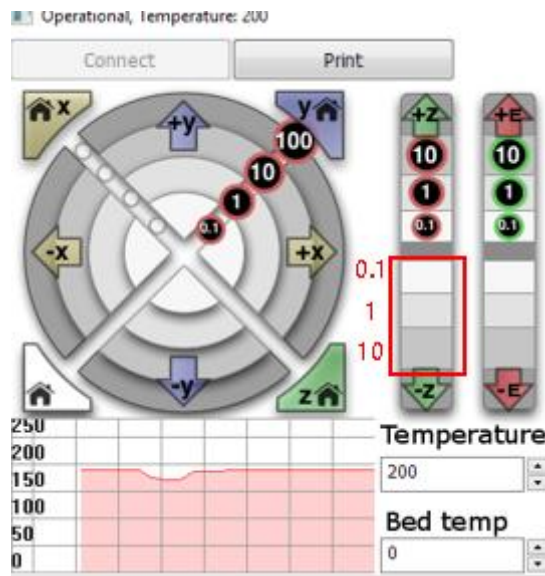

Figure 6.27 Move Z-axis
1. Click **-Z** or Click **10, 1, 0.1** to move the Dobot M1 to the position where the distance from the nozzle to the printing platform is about 0.3mm, as shown in Figure 6.27.